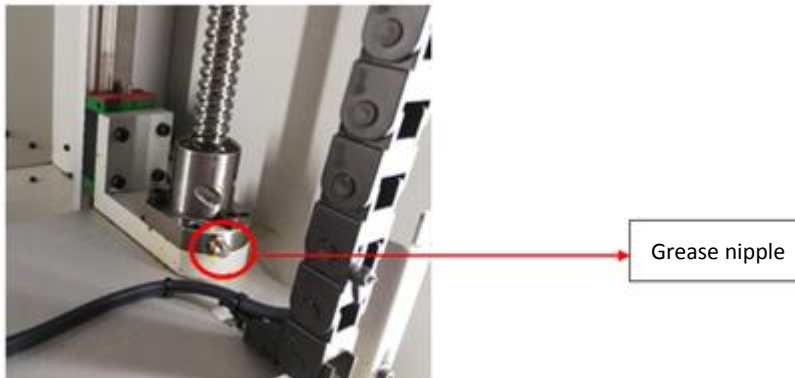

Fig. 30 Lubricating HIWIN ball screws
- For HIWIN screws (Fig. 30): push the grease into the grease nipple of the ball screw nut. Push grease out by pressing the lubricator nozzle firmly against the grease nipple and pressing smoothly the lubricator lever once.